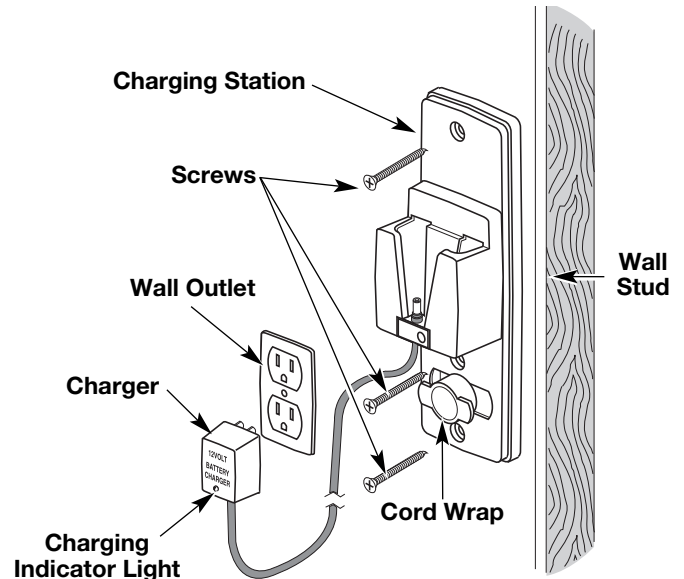

Fig. 3
2. Locate the wall stud and mount the charging station to the wall using the three (3) screws provided (Fig 3). Make sure that the screws enter the wall stud to provide a secure mount.
3. Plug the charger into the wall outlet and wind any excess wire onto the cord wrap on the charging station (Fig. 3).